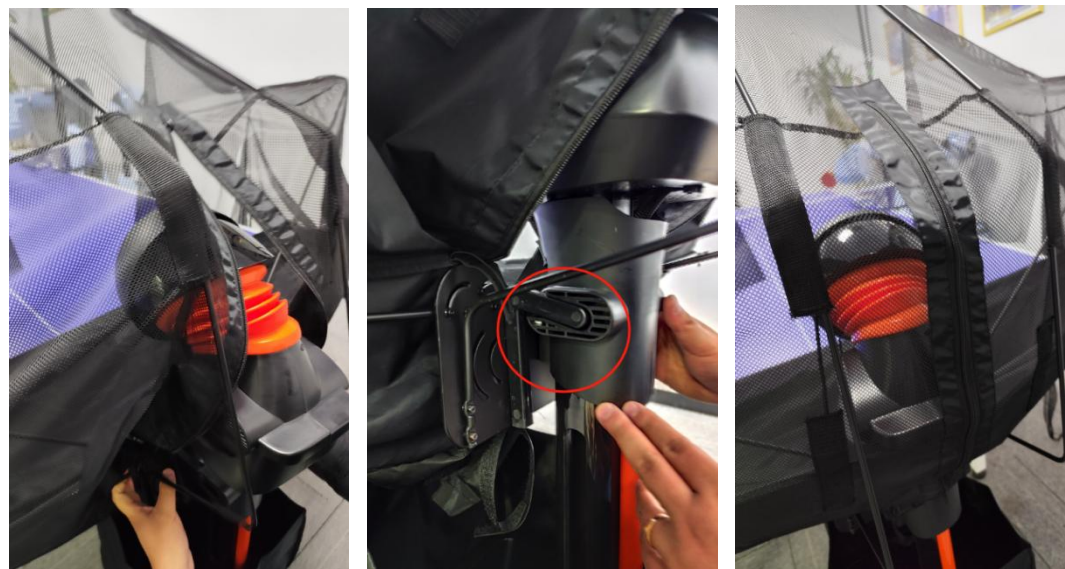

Figure 2-2
2.1.3. Take out the ball recovery net, unzip it, pass it from the front of the robot's head to the back, install the net fixing claw on the ball machine, spread out the ball recovery net, adjust the horizontal level of the left and right nets, and finally zip up the ball recovery net (Figure 2-2).